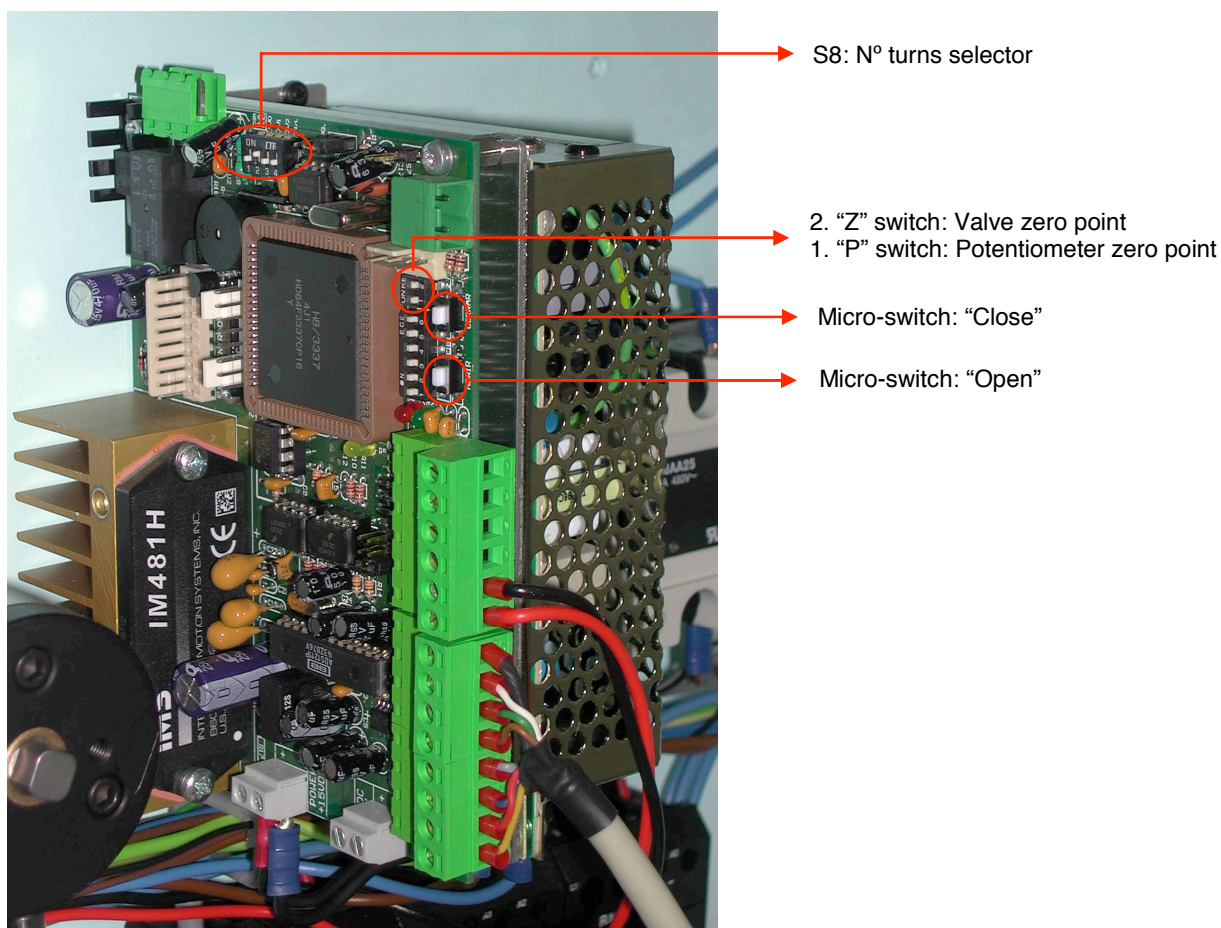

Figure 4-24
To adjust the valve's zero-setting, set switch “Z” on the dip-switch to “On”. (S1: zero, see Figure 4-24). The motor is now free for manual positioning (by means of the corresponding TOHO controller in manual mode, acting on the % of control output) or by pressing the microswitches “Open” or “Close” the valve's new zero-setting (point at which the system's gas outlet ceases to bubble). If the buttons “Open” or “Close” are pressed, the motor moves the shaft in 5° jumps. Once this has been performed, return the “Z” switch to the “Off” position. The new zero-setting will be saved on memory.
- Localize the dip-switch S8 of the driver (see Figure 4-24)
- Check that the switch 4 on dip-switch S8 is on the “**Off**” position (see Figure 4-24)